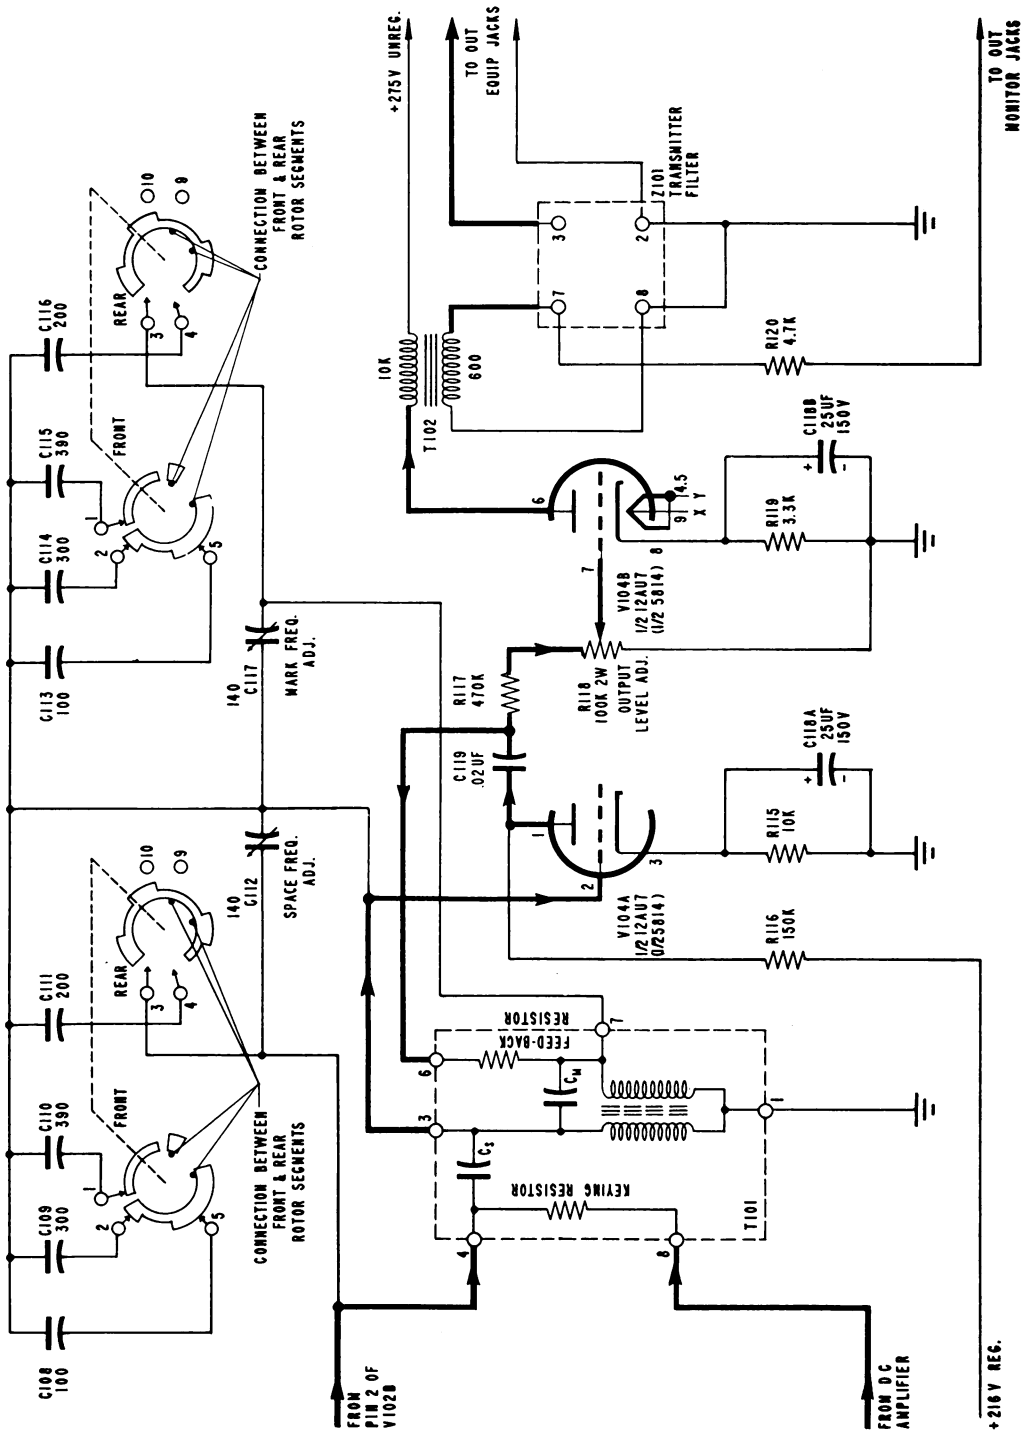

Figure 2-6. Schematic Diagram of Carrier Oscillator and Output Circuits
- Figure 2-6 shows a schematic diagram of the carrier oscillator and output circuit. The MARK and SPACE pulses on the clamping diode V102B control the frequency of the oscillator by disconnecting and adding a capacitor C_s to the tuned LC of the oscillator. Under a MARK signal the SPACE capacitor C_s of the audio-frequency transformer T101 is electrically disconnected from the tuned oscillator circuit by the high impedance of the diode. Under SPACE signal the capacitor C_s is grounded through the diode and appears across a portion of the coll. With a MARK signal applied to the loop the value of the MARK tuning capacitor C_m is trimmed with fine and coarse MARK FREQ ADJ controls (C117 and S106 with C113, C114, C115, and C116) for oscillation at the MARK frequency. With a SPACE signal applied to the loop the SPACE capacitor C_s is trimmed with fine and coarse SPACE FREQ ADJ controls (C112 and S105 with C108, C109, C110, and C111)